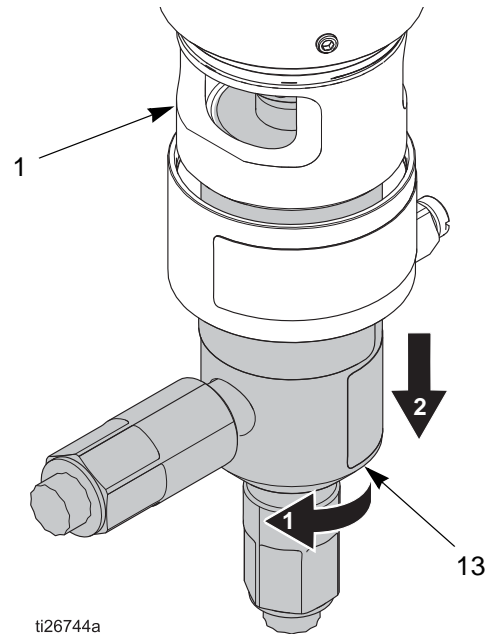
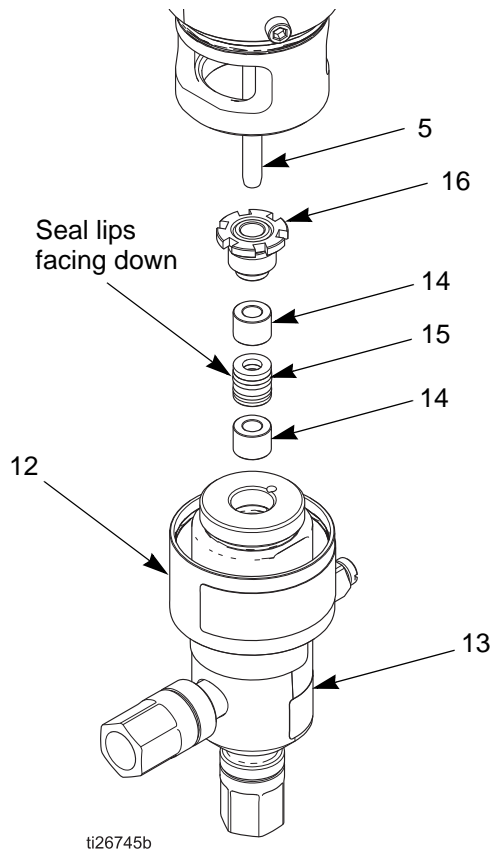

FIG. 7 Remove fluid cylinder
FIG. 8 Remove parts from fluid cylinder
3. Loosen, but do not remove, the packing nut (16).
4. Remove the fluid cylinder (13) from the middle section. See FIG. 7
5. Carefully slide the fluid cylinder (13) away from the air motor housing (1), taking great care to keep the fluid plunger (5) from contacting any metal surfaces. The fluid plunger (5) will stay attached to the air motor during repair. See FIG. 7 and FIG. 8.